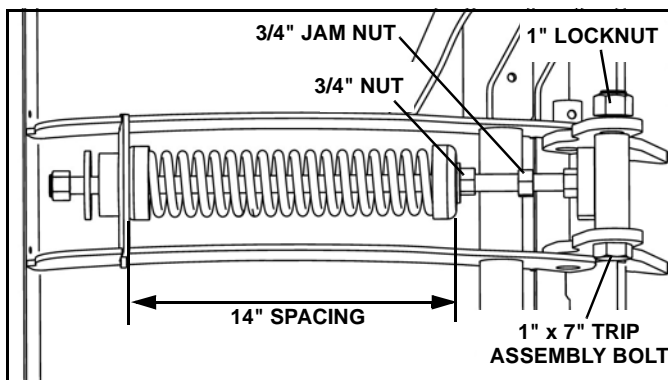

Figure 2-6
1. Loosen the 3/4" locknut on the top of the trip rod and the 3/4" jam nut below the lower spring cup. (See Figure 2-6)